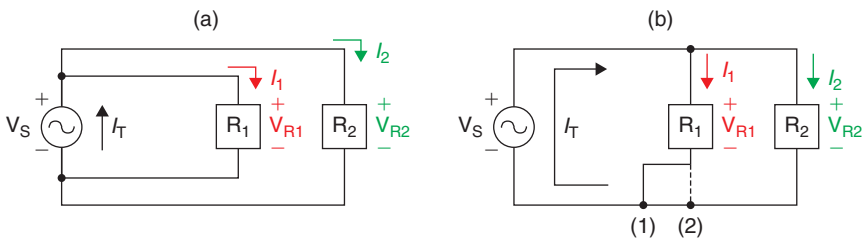
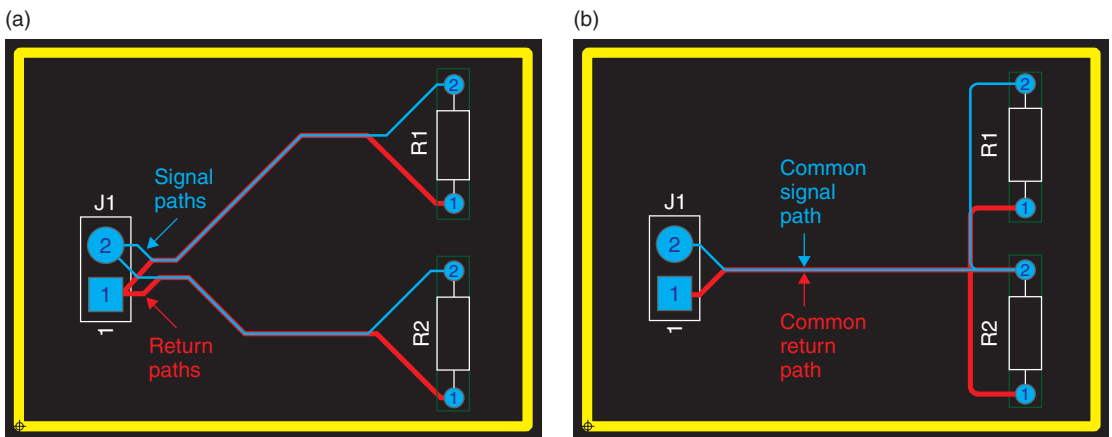

Figure 6-9 Typical signal and return connection schemes. (a) Parallel connected. (b) Series connected.
Figure 6-11 Signal and return connection schemes in Layout. (a) Parallel (separate) connected. (b) Series (common) connected.
There are two basic ground and power connection schemes, parallel and series connections, as shown in Fig. 6-9. A parallel ground system is shown in Fig. 6-9(a). A parallel ground system is also called a separate ground system, since the current flow in each branch is supplied by and returns to the source through completely separate paths. A series connected ground system is shown in Fig. 6-9(b). The series connected ground system is also referred to as a common ground system or daisy chain, since the current flows in the two branches share a common path.
At the schematic level the circuits in Fig. 6-9 are identical; mathematically the circuits are also identical, that is, $I_T = I_1 + I_2$ and $V_{R1} = V_{R2} = V_S$. Furthermore, as indicated in Fig. 6-9(b), you could connect R_1 to the common return path at either point (1) or point (2) without changing the meaning of the circuit description in any way. However, on the PCB, the two circuits shown in Fig. 6-9 can be significantly different. There may even be significant differences between points (1) and (2) in Fig. 6-9(b).
Clearly then, it would seem that the best return system is the parallel system shown in Fig. 6-9(a). However, a potential problem rises when we try to implement this approach on the PCB. Figure 6-11 shows the routing scenarios in which Fig. 6-11(a) is the parallel connection and Fig. 6-11(b) is the series connection. As described above and shown in Fig. 6-11(a) the current paths do not interfere with each other in the parallel connection since their paths are completely separate, and since each signal path is directly above its return path, there is tight
The series connection in Fig. 6-11(b) is obviously much easier to route, but it loses the benefit of the separate signal and return paths. Even with the signal and return paths tightly coupled, the common paths (impedances) could be problematic for circuits operating at high frequency or with fast rise times.